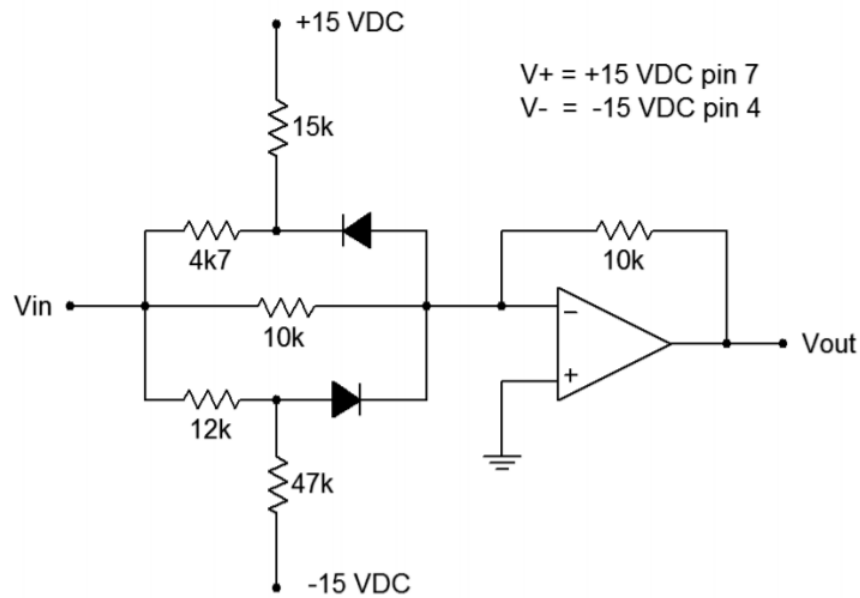

Figure 14.5.1
1. Calculate the break-points and slopes for the input/output transfer curve of the circuit in Figure 14.5.1. Record these values in Table 14.7.1.
2. Assemble the circuit of Figure 14.5.1.
1. What would happen in Figure 14.5.1 if the $12\text{k}\Omega$ and $4\text{k}\Omega$ were swapped?
3. Does the value of the DC power supply have any effect on the break-points of the circuit of Figure 14.5.1?
5. What would the transfer curve look like if Figures 14.5.1 and 14.5.2 were cascaded?